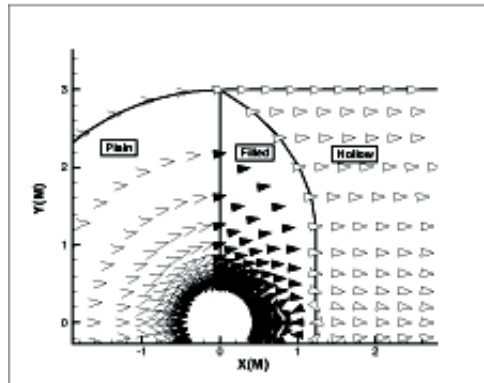

Figure 10-18. Arrowhead types for vector plots (plain, filled and hollow).
- **Head Style** - Figure 10-18 displays the available arrowhead styles.